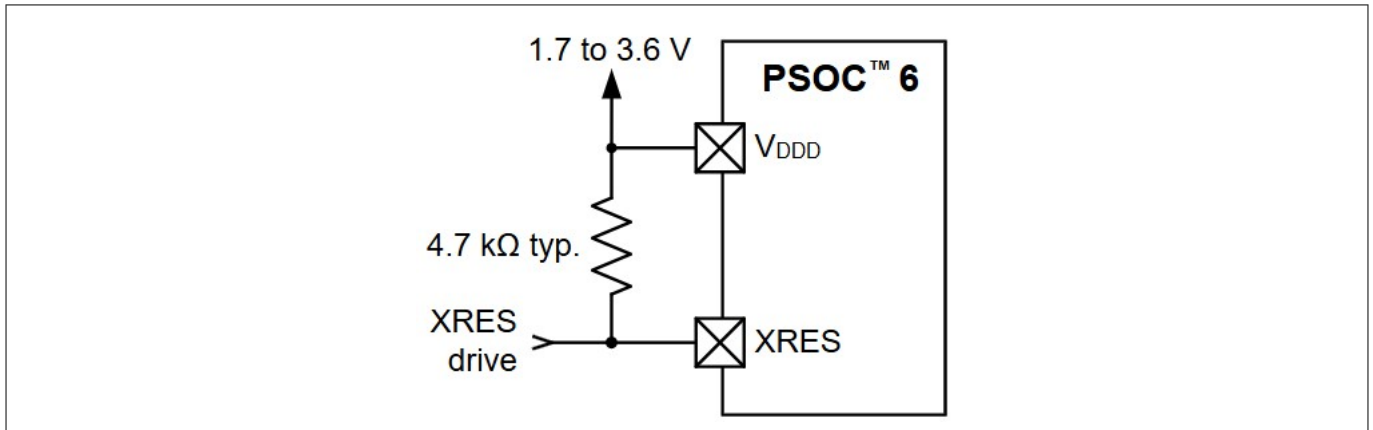

Figure 5 XRES connection diagram
- External reset dedicated pin (XRES) to reset the device using an external source. The XRES pin is active low. It can be connected either to a pull-up resistor to V_{DD} , or to an active drive circuit, as Figure 5 shows. If a pull-up resistor is used, select its value to minimize current draw when the pin is pulled low; 4.7 k Ω to 100 k Ω is typical.